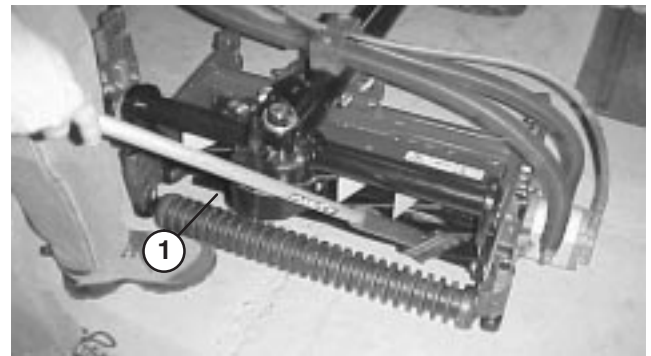

Figure 71
8. Apply lapping compound with a long handle brush (Toro Part No. 29-9100). Never use a short handled brush (Fig. 71).